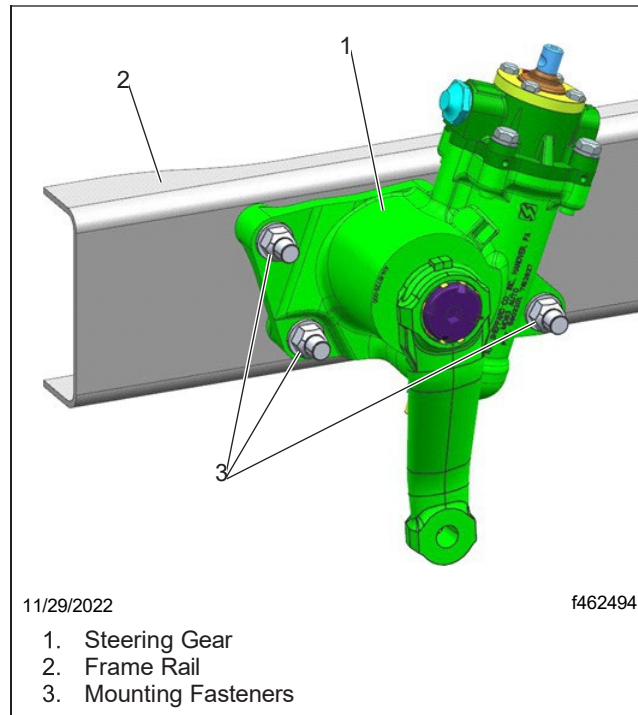

Fig. 9, Steering Gear Removal
11. Use a 1-1/8 inch socket and wrench to remove the three bolts and washers that attach the steering gear to the rail. Discard the fasteners. See Fig. 9.